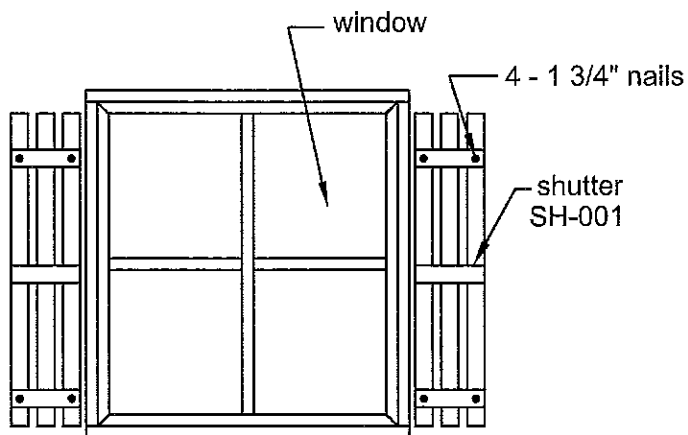

FIGURE S30
- Attach the shutters with 1 3/4" finishing nails. Pre-drill the shutters with the 1/16" drill bit. See Figure S30.